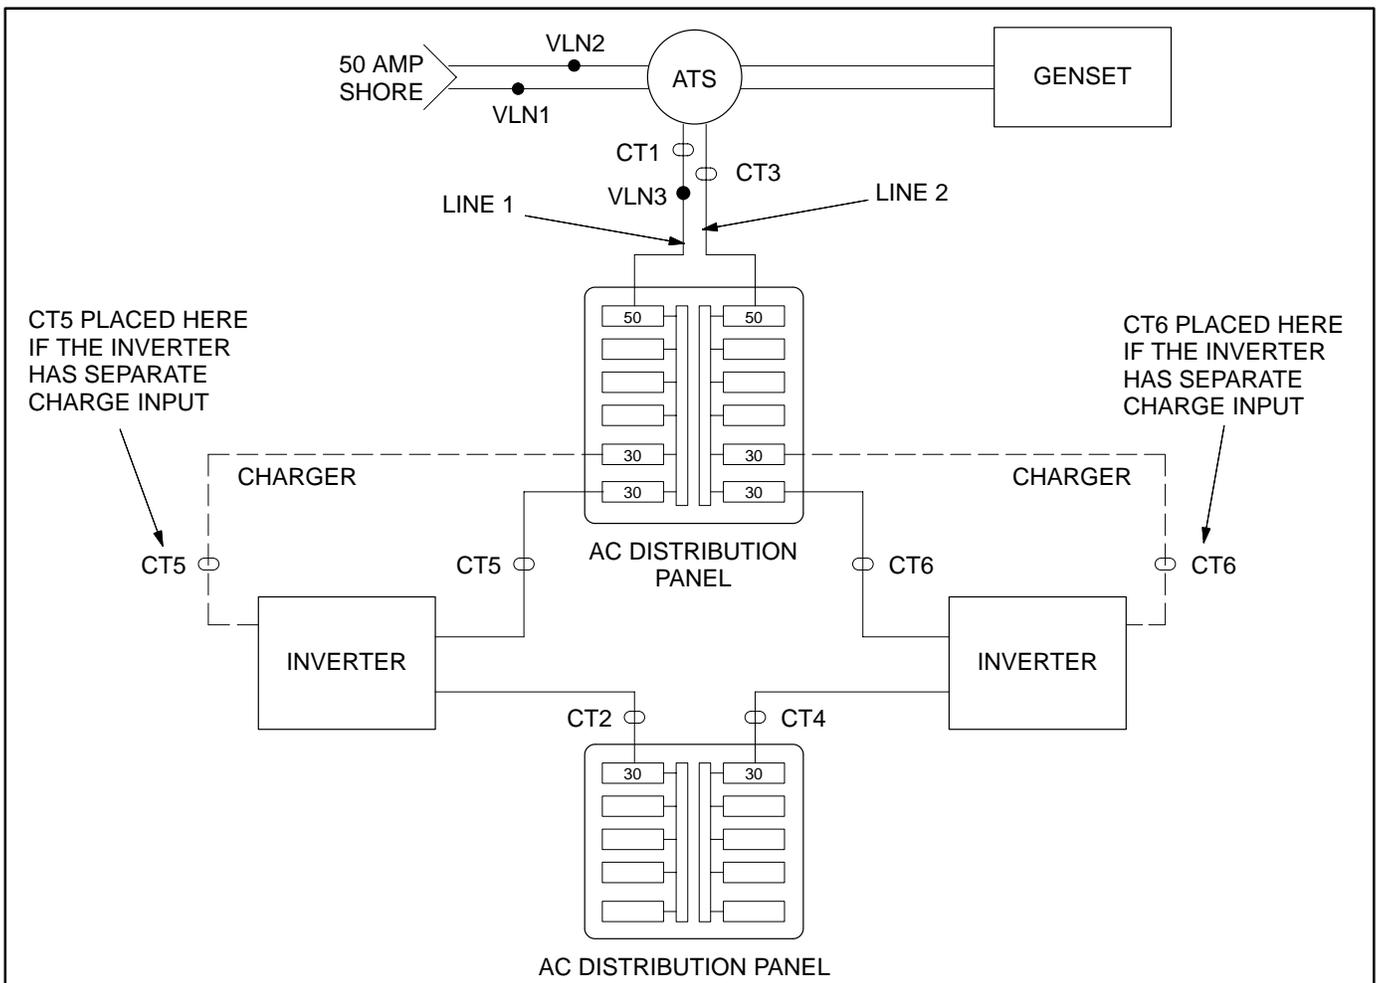

FIGURE 12-8. CONFIGURATION 2
- Configuration 2: Figure 12-8